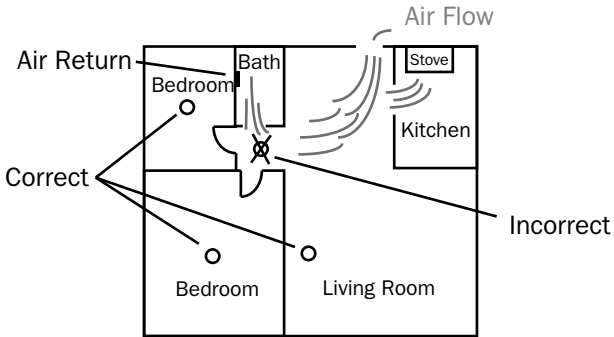

Figure 6: recommended smoke detector locations to avoid air streams with combustion particles.
- In air streams passing by kitchens. Figure 6 shows how a detector can be exposed to combustion particles in normal air movement paths, and how to correct this situation.